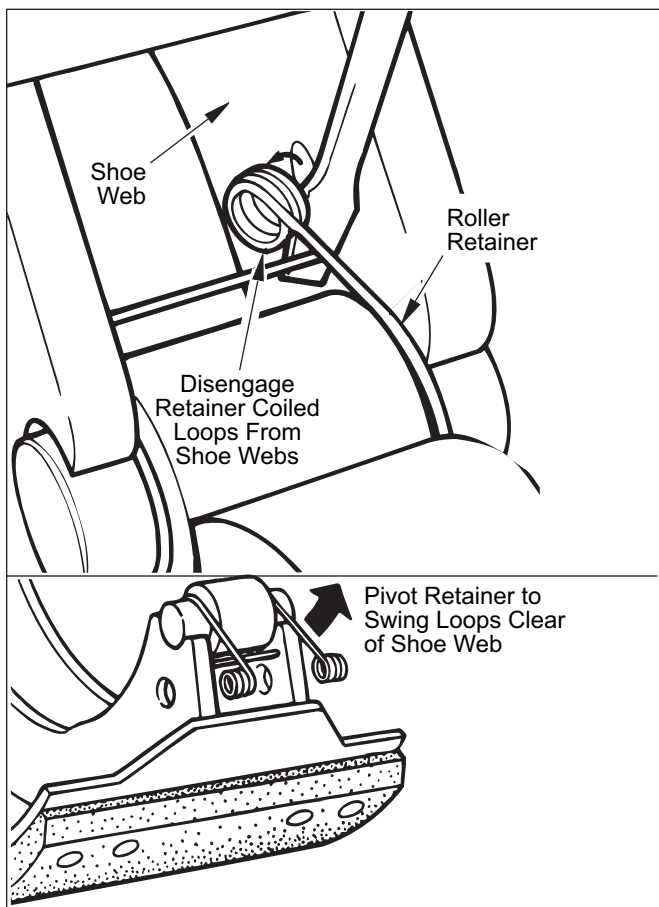

Figure 18. Retainer Loop Removal
3. Pry roller retainer coiled loops out of both shoe web holes as shown in Figure 18. Pivot roller retainer to swing loops clear of shoe webs.